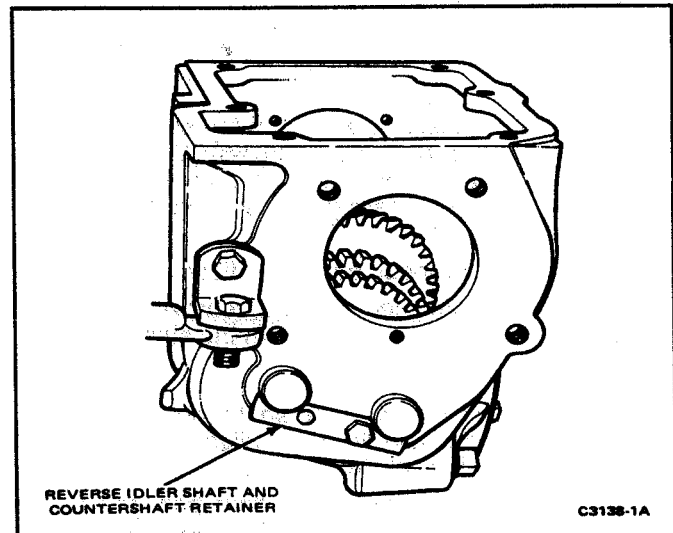

FIG. 10 Reverse Idler Gear Shaft and Countershaft Retainer
12. Remove the reverse idler gear shaft and the countershaft retainer from the end of the transmission case (Fig. 10).